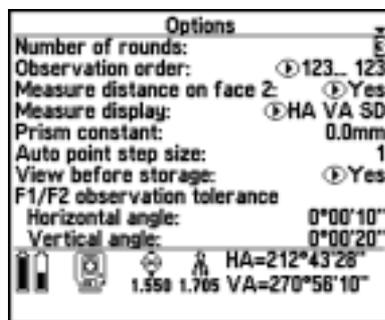

Figure 19.20 Options screen—rounds
3. To change the settings for the current survey, press **Options**. The *Options* screen appears as shown in Figure 19.20.